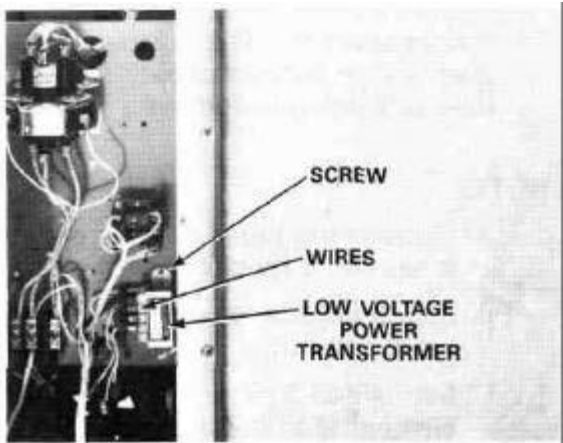

Figure 21
- 3. Locate the low voltage power transformer on the rear component panel and disconnect the wires from the transformer. (See Figure 21)
- 4. Using the phillips screwdriver, remove the transformer from the rear component panel. (See Figure 21)